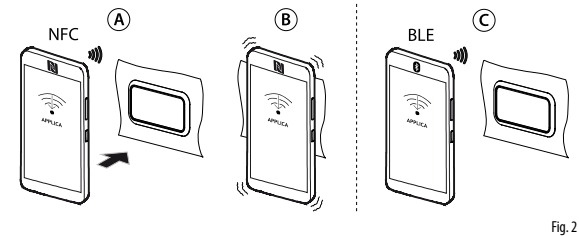

Fig.2
- move the mobile device near to the user terminal, maximum distance 10 mm, so as to recognise the configuration (Fig. 2 - ref. A);
- move the mobile device near to the user terminal again to upload the configuration parameters (Fig. 2 - ref. B);
- move the mobile device near to the user terminal, maximum distance 10 m, to recognise the configuration (Fig. 2 - ref. C);